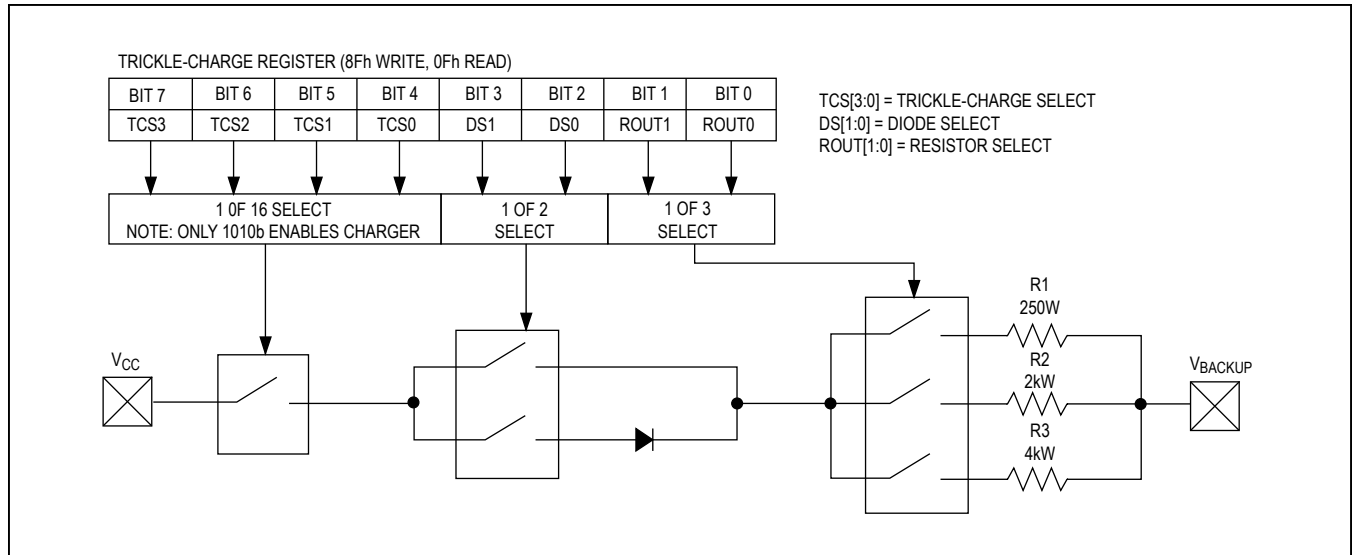

Figure 8. DS1390–DS1394 Programmable Trickle Charger
The simplified schematic in Figure 8 shows the basic components of the trickle charger. The trickle-charge select (TCS) bits (bits 4 to 7) control the selection of the trickle charger. To prevent accidental enabling, only a pattern on 1010 enables the trickle charger. All other patterns disable the trickle charger. The trickle charger is disabled when power is first applied. The diode-select (DS) bits (bits 2 and 3) select whether or not a diode is connected between  $V_{CC}$  and  $V_{BACKUP}$ . If DS is 01, no diode is selected or if DS is 10, a diode is selected. The ROUT bits (bits 0 and 1) select the value of the resistor connected between  $V_{CC}$  and  $V_{BACKUP}$ . Table 5 shows the resistor selected by the resistor-select (ROUT) bits and the diode selected by the diode-select (DS) bits.